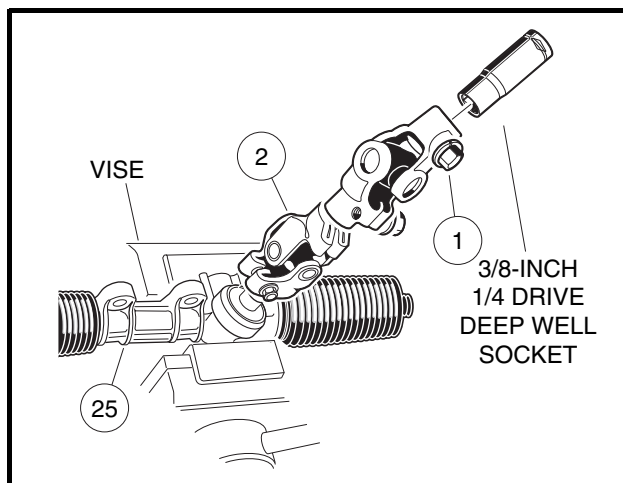

Figure 7-15 Rack and Pinion Resistance
- 11.2. Insert a 3/8-inch deep well socket into the steering column end of the universal joint (2) and tighten the bolt (1) to 15 ft-lb (20.3 N·m) (Figure 7-15, Page 7-12).